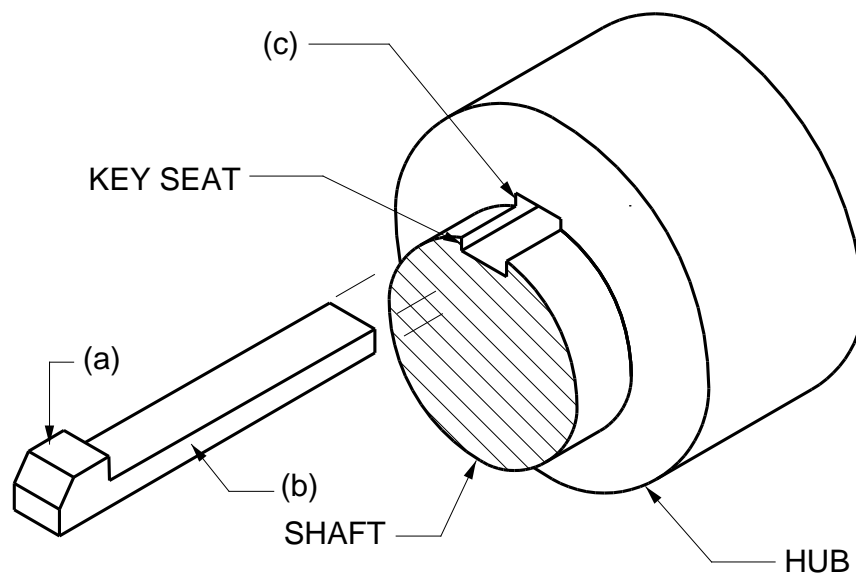

FIGURE 1
- 1.2 Redraw the given view in FIGURE 1 freehand in good proportion, to approximately the given size. (3)